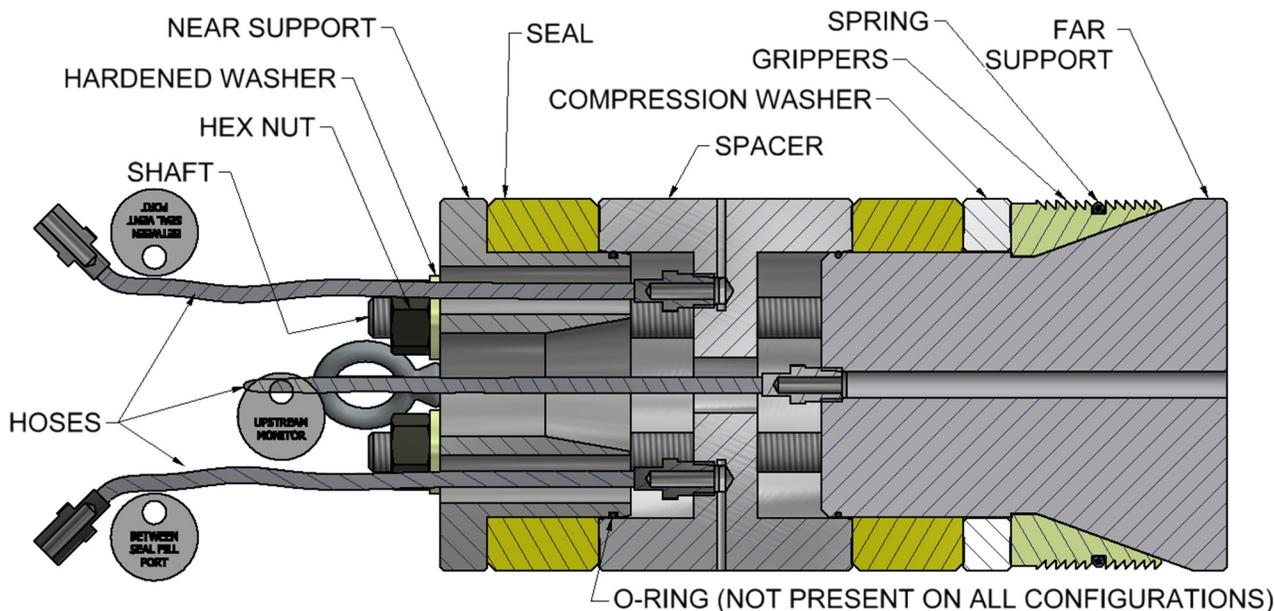

Figure 6: GripTight Isolation Plug 4" - 6" Plug Components
4.4. Install the Gripper Assembly over the Shafts and onto the Far Support. Reassemble plug as in Figure 6.